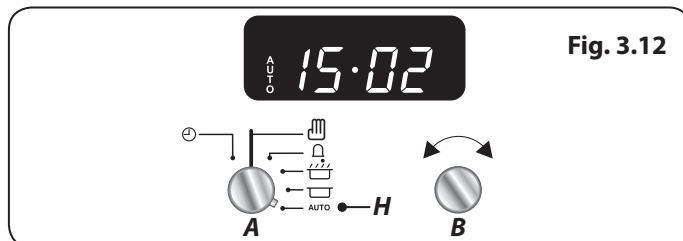

Fig. 3.12
5. Turn the **Timer (A)** knob to the **Auto (H)** setting (**Fig. 3.12**). If the display shows the current time and the word 'AUTO' the oven is set to turn on and off.